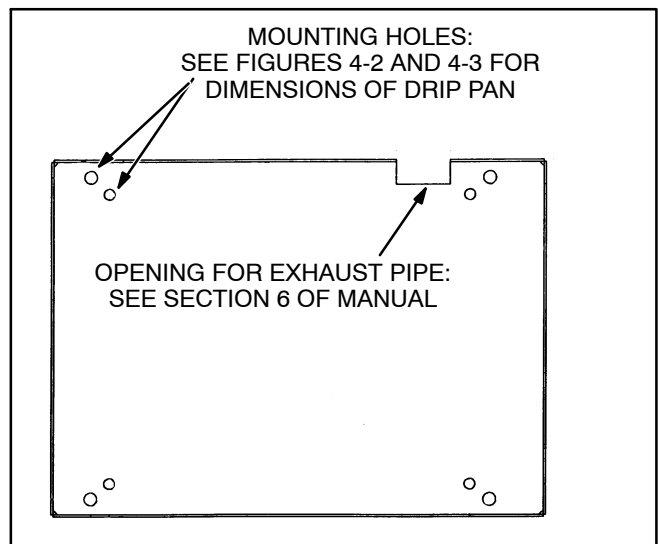

FIGURE 3-4. COMPARTMENT FLOOR MOUNTING HOLE PATTERN
2. Make holes in the bottom of the compartment for generator set mounting, air outlet and oil drain (Figure 3-4). If there is wood under the compartment, remove the section under the compartment and replace it with a sheet metal floor and an adequate steel support frame.